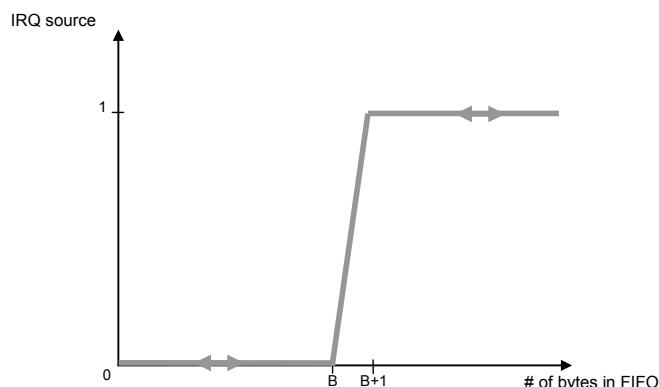

Figure 32: FIFO Threshold IRQ Source Behavior
- Fifo\_threshold: Fifo\_threshold interrupt source's behavior can be programmed via MCPParam\_Fifo\_thresh (B value). This behavior is illustrated in Figure 32.